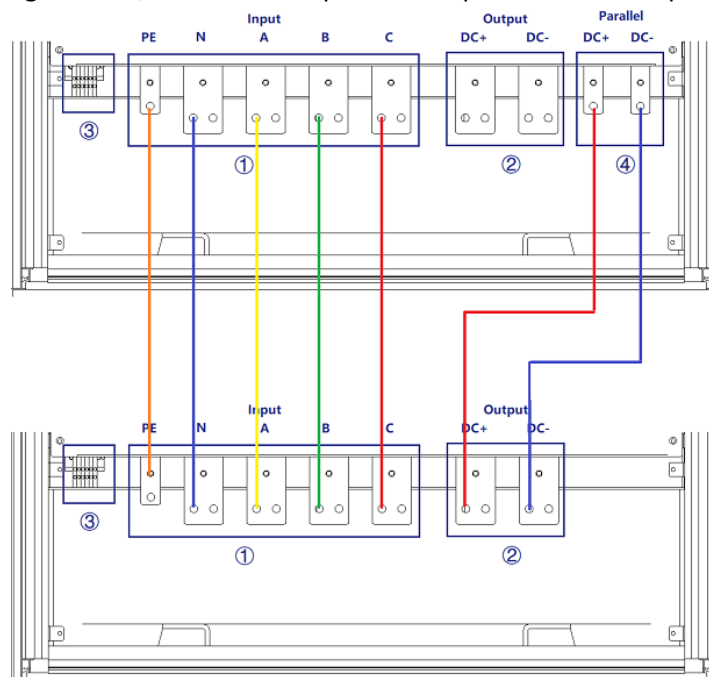

Figure 1-27 Parallel input and output cable connection diagram
Step 3: As shown in Figure 1-27, connect the input and output cables of the power supply.